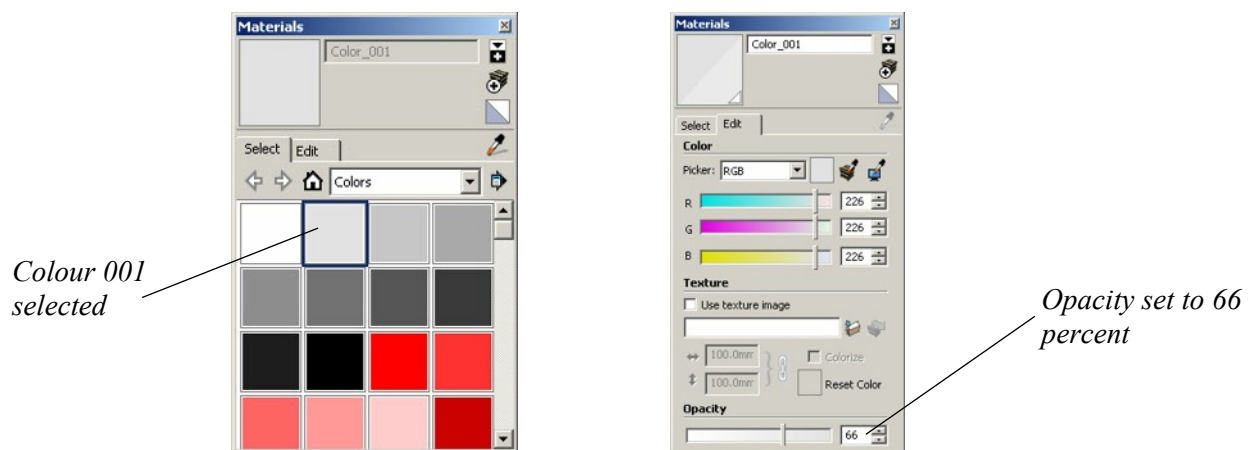

Figure 5. Materials dialog box showing colour 001 selected and the Edit tab with Opacity set to 66 percent
- Activate the Paint Bucket tool with **TOOLS/Paint Bucket** and the Materials dialog box will appear as shown in Figure 5.
- Select colour '001' as shown in Figure 5 and use the Paint Bucket to colour the selected face of the rectangle.
- Click on the Edit tab in the Materials dialogue box as shown in Figure 5 and change the Opacity of colour 001 to approximately 66 percent.